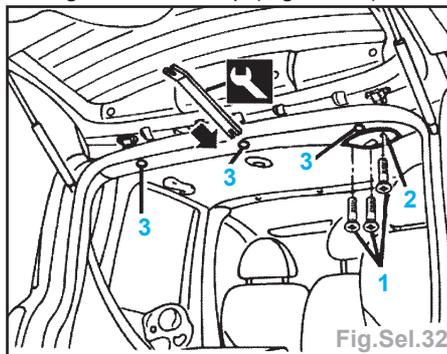

Fig.Sel.32
- la garniture AR sup.(Fig Sel.32).